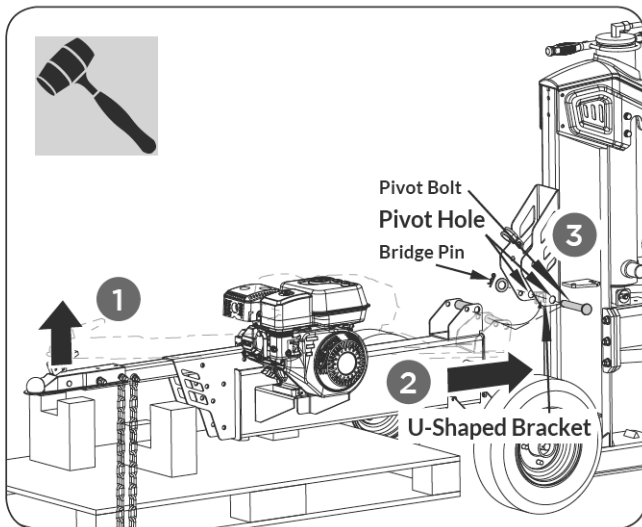

Figure 7
1. One person holds the beam steady, and the other person lifts the tow bar, rotates to adjust the position, and aligns the holes in the tank pivot amount plate with the holes in the beam pivot bracket. Insert the pivot bolt and secure with the bridge pin. (See **Figure 7**.)